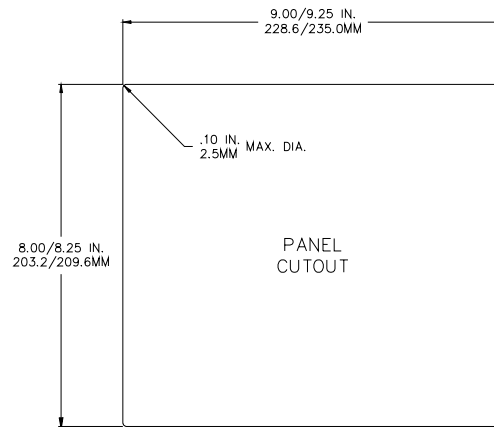

Figure 2-7: 660, 661 and 662 Panel Mount Cut-Out
1. Make a cut out in the panel using the dimensions shown in Figure 2-7. The corners are typically 0.1R maximum.